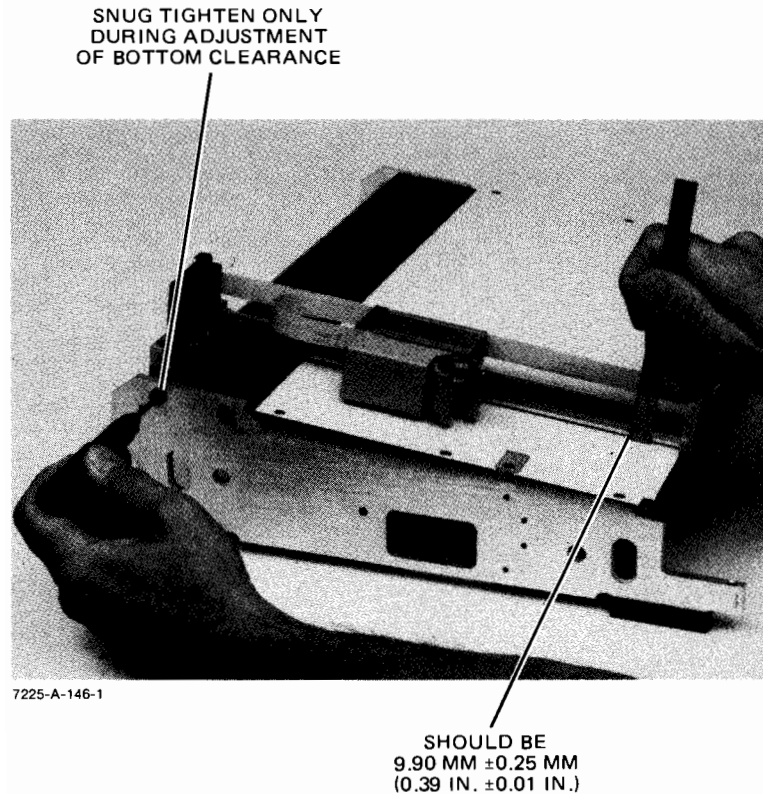

Figure 6-3. Bottom of Table
- f. With the scale placed near the bottom edge of the platen (see Figure 6-3), lightly twist the X stator until the upper surface of the Y stator is $9.90 \text{ mm} \pm 0.25 \text{ mm}$ ($0.39 \text{ in.} \pm 0.01 \text{ in.}$) above the platen. Snug tighten the other hex cup screw.